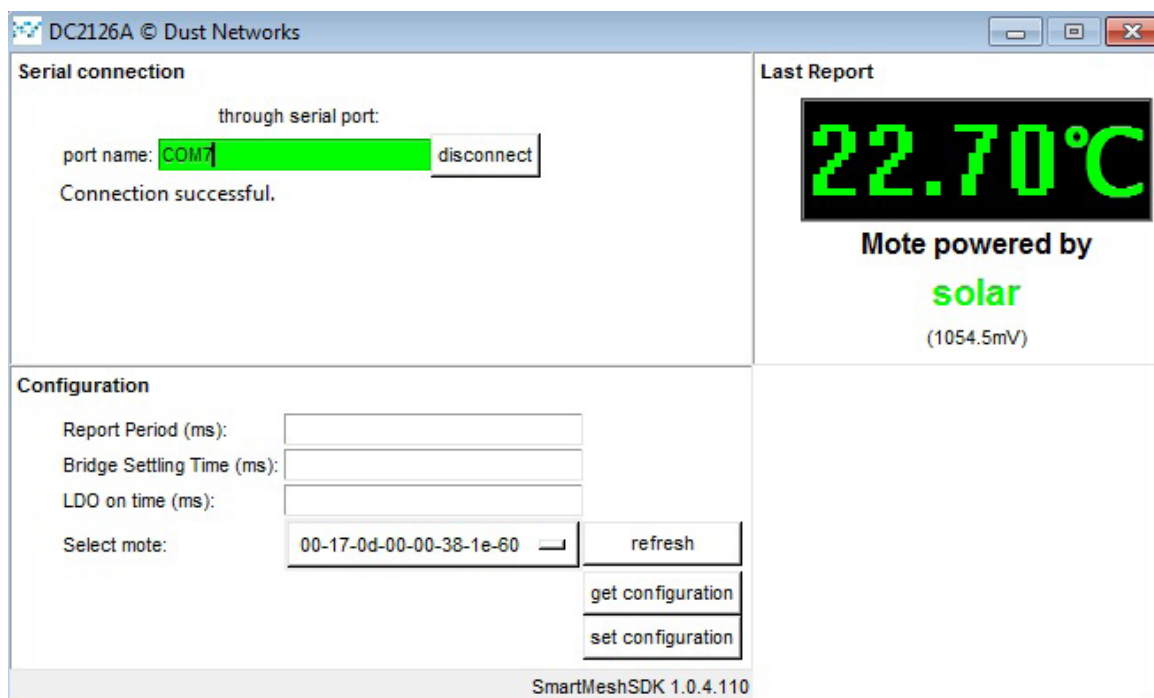

Figure 2. DC2126A GUI Successful Connection
6. The GUI window will change as shown in Figure 2.